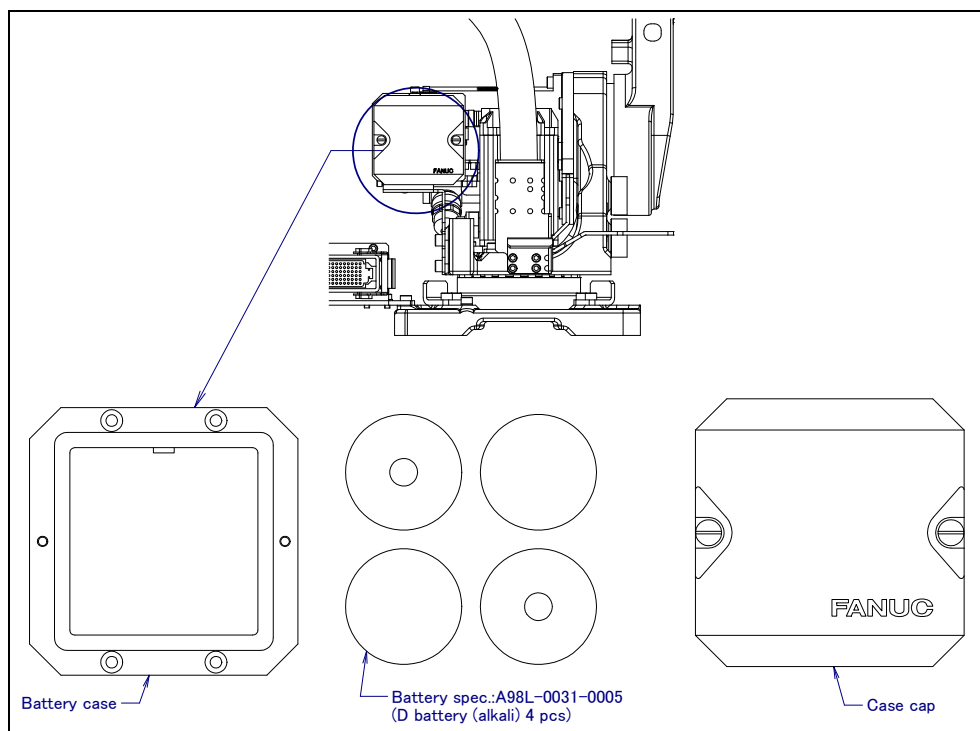

Fig. 7.3.1 Replacing the battery
- 2 Remove the battery case cap. (Fig. 7.3.1)